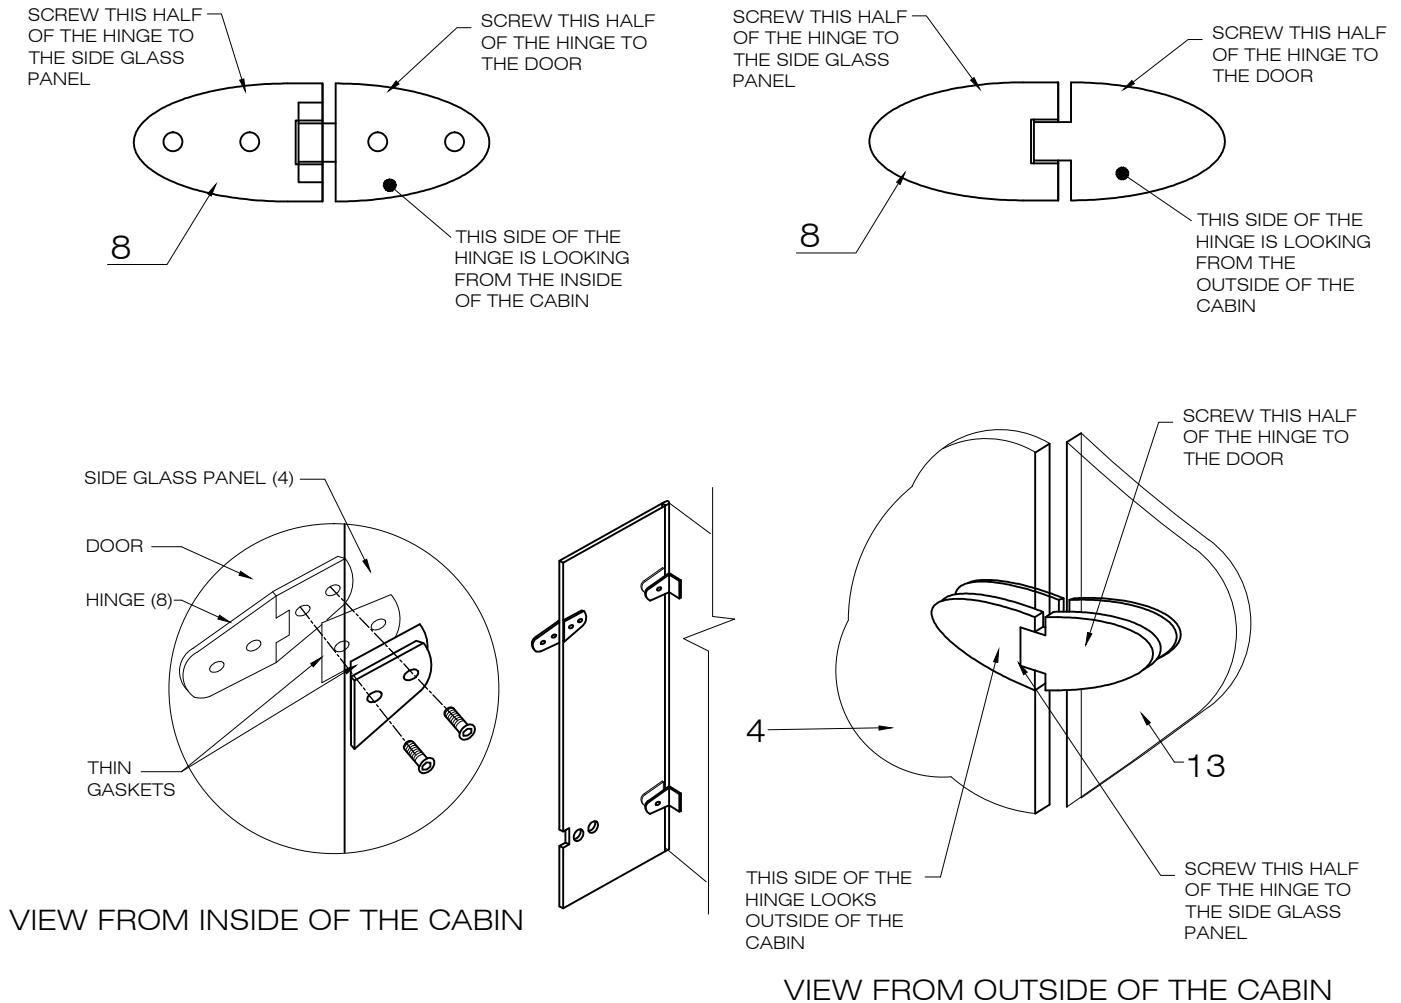
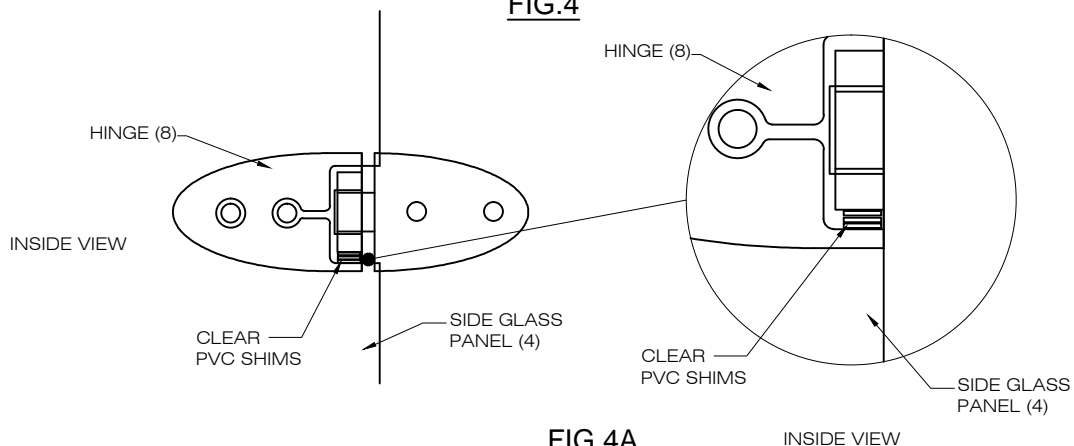

FIG.4
FIG.4A
2. Position hinges on the side glass panel. [SEE FIG.4] Place a shim between the glass and the hinge on the bottom. [SEE FIG.4A]